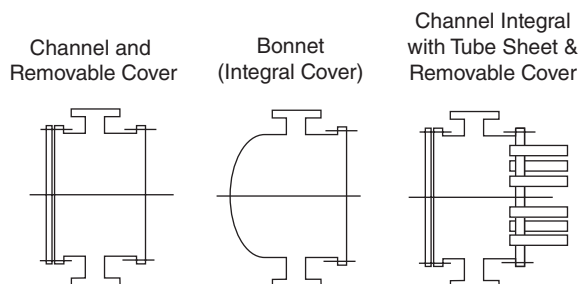

Figure 7.9
The heads (Figure 7.9) on a shell-and-tube heat exchanger can be classified as front-end or rear-end types. The front-end head has five primary designs: (1) channel and removable cover; (2) bonnet; (3) channel